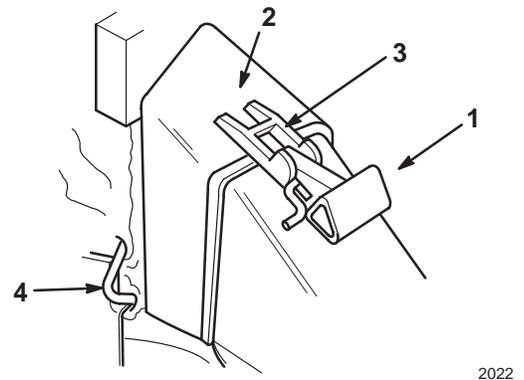

Figure 40
2. Ensure that the discharge door handle is fully forward (door closed) as shown in Figure 40.
Note: In Figure 40, the brush guard is not shown for the purpose of clarity.
3. Fit the bag door opening over the discharge tunnel opening as shown in Figure 40.
- Lift the door latch until it clears the bag notch and move the discharge door handle forward (Fig. 40).